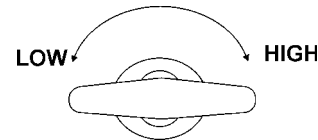

Figure 54. Engine Speed Throttle
- Make sure the engine speed lever is set on low (Figure 54).